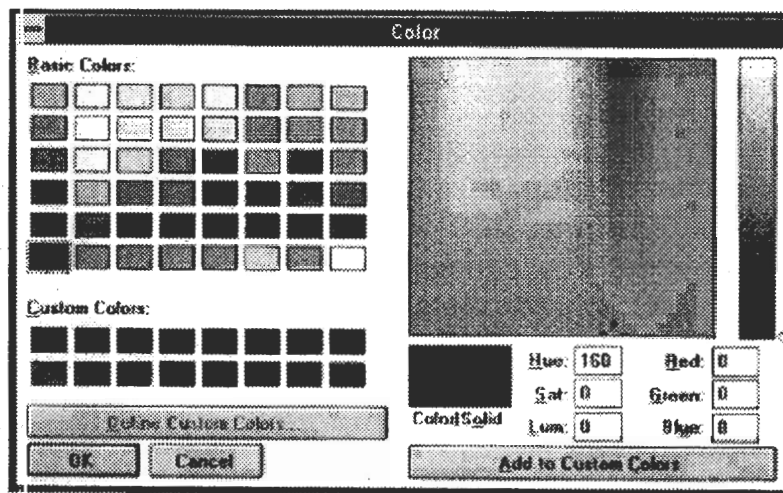

Figure 4-23
- * "Edit" button: Opens the "Color setting" window (Figure 4-23).
- "Color setting" window (Figure 4-23): Selects colors to be set for the palette.